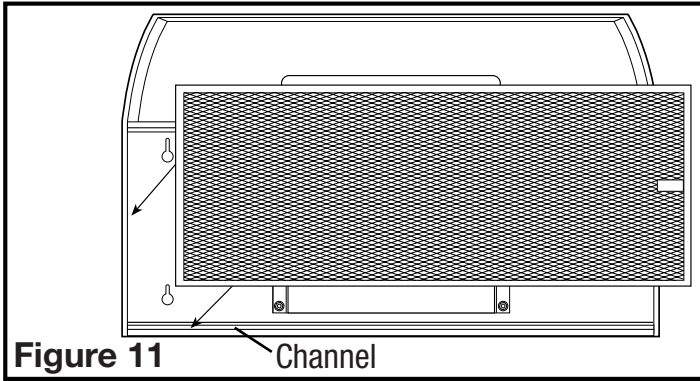

Figure 11
1. Reinstall the filter by fitting into the channel of the hood and pushing upwards until it is secured in place (Figure 11).